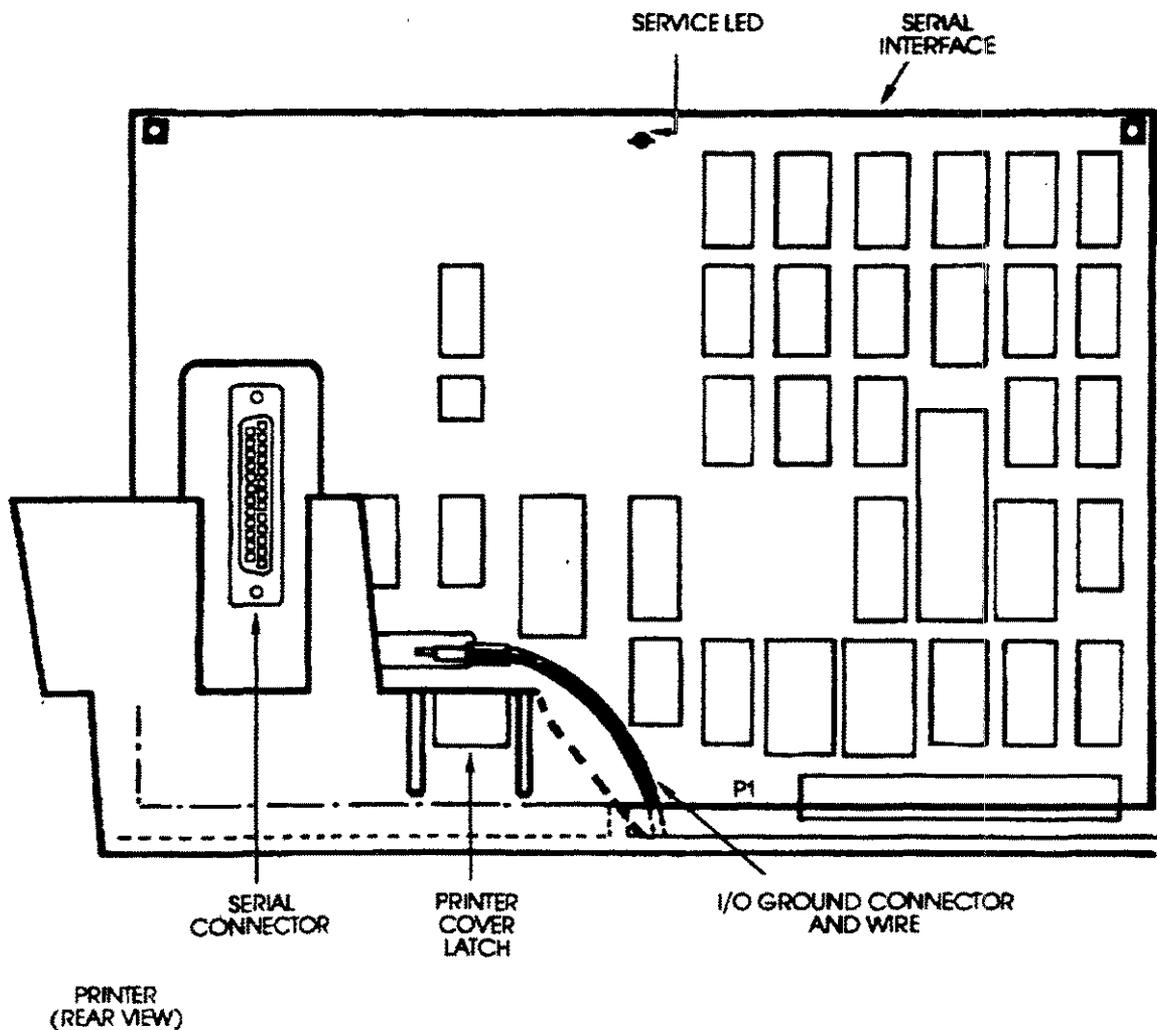

Figure 2-1. HP 2563A Printer Interface Installation
Installation of the interface into the printer (see figure 2-1) consists of removing/opening the printer top cover/panel, inserting the interface into the printer backplane interface connector, and finally configuring the interface for system operation.
- a. Disconnect power to the printer by setting the Main Power switch, at the back of the printer to OFF (0).
- HP 2563A Printer - Connect the I/O ground wire (from the printer) to the interface ground lug (see figure 2-1).
- h. Apply power to the printer by setting the Main Power Switch to ON (1).